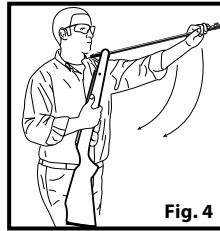

Fig. 4
3. Hold the airgun close to your body by placing the stock of the airgun on your upper thigh (Fig. 4).